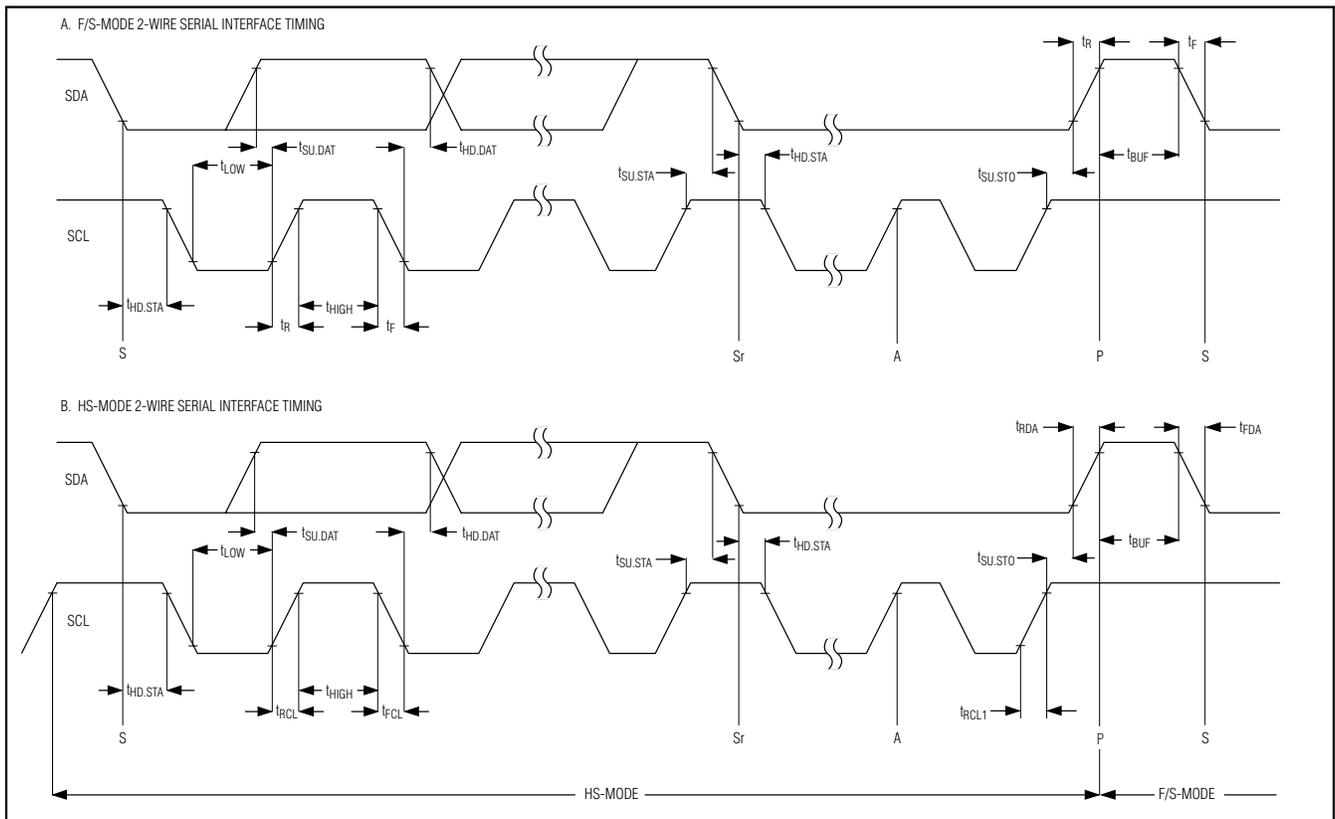

Figure 1. 2-Wire Serial Interface Timing
### TIMING CHARACTERISTICS (Figure 1)
### TIMING CHARACTERISTICS (Figure 1) (continued)
## TIMING CHARACTERISTICS (Figure 1) (continued)
**Note 10:** A master device must provide a data hold time for SDA (referred to VIL of SCL) in order to bridge the undefined region of SCL's falling edge (see Figure 1).
At power-up, the MAX1236–MAX1239 bus timing is set for fast-mode (F/S-mode), which allows conversion rates up to 22.2ksps. The MAX1236–MAX1239 must operate in high-speed mode (HS-mode) to achieve conversion rates up to 94.4ksps. Figure 1 shows the bus timing for the MAX1236–MAX1239's 2-wire interface.